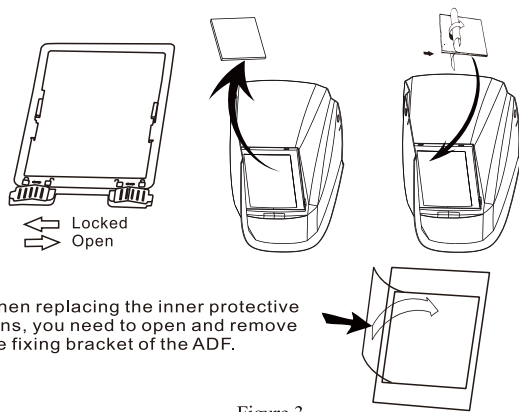

Figure 3
- 1.1. Remove the Front Lens Cover by gently pulling up the central part of the Lens. See Figure 3. If the unit has a frame over the front of the lens, lift up on the tab at the bottom of the frame to access the lens cover.